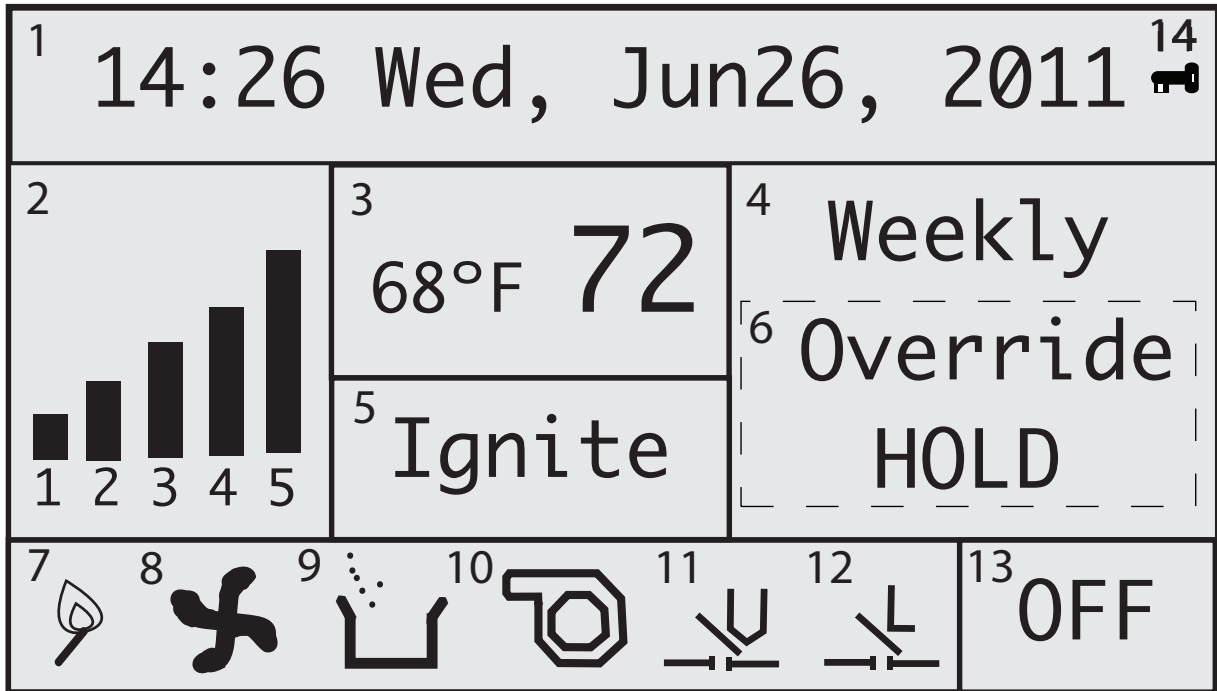

Figure 19: Main Operation Controller Screen Display
When the stove turns on, the ignition indicator and the exhaust blower indicator will appear on the screen (7 and 8, Fig. 19).
“Ignite” will also appear in the work stage box (5, Fig. 19) on the screen. After approximately four seconds, the vacuum switch indicator (11, Fig. 19) will appear. Also note that the hopper lid open indicator (limit indicator) (12, Fig. 19) will appear anytime the stove’s hopper lid is properly shut and sealed.
The stove exhaust blower will continue to run for three minutes, then the auger indicator (9, Fig. 19) will flash on the screen, indicating that the auger is feeding pellets into the stove. Within three to five minutes of the auger feeding pellets, a fire should ignite. Once a fire is lit, the work stage box on the screen will read “Heating Room”.
To increase or decrease the “call to” temperature, use the **SCROLL UP** or **SCROLL DOWN** button (8 and 10, Fig. 17). The current room temperature will be displayed in the temperature display box (3, Fig. 19) on the screen, as will the “call to” temperature.
- With a schedule set, make sure that the main display screen on the controller reads **'WEEKLY'** (for operating in the Weekly Mode) and that the unit is turned on. The schedule will not take effect unless the unit is turned on in the Weekly Mode. (13, Fig. 19).